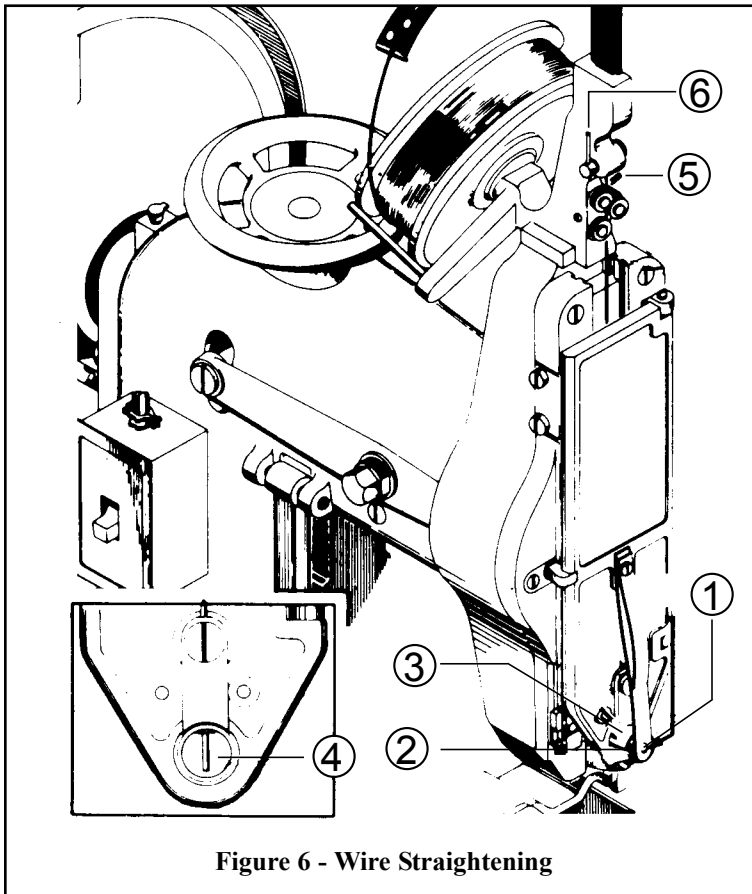

Figure 6 - Wire Straightening
### Wire Straightening (Figure 6)
In order to insure continuous operation of the Stitcher, it is important that the wire when being fed into the Swivel, enters in as close to a straight-vertical line as possible. To check this condition and make the necessary adjustments, proceed as follows. Disengage the Swivel Spring (1) from the Swivel (2) and withdraw the Swivel from its Bushing (3). Turn the machine over manually and observe by looking directly into the Swivel Bushing (4) that wire is being fed in a vertical line, as shown in insert Figure 6. If the wire is feeding to the left or to the right, turn the Lower Wire Straightener Eccentric Handle (5) clockwise or counter-clockwise as